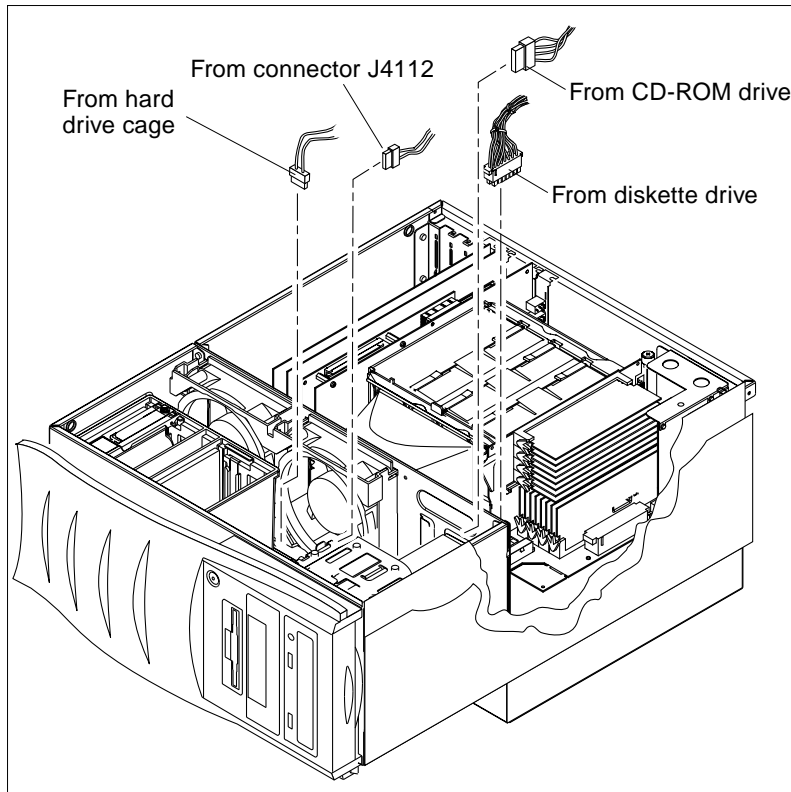

FIGURE 7-5 Removing and Replacing the Peripheral Power Cable Assembly
3. Disconnect the peripheral power cable assembly as follows (FIGURE 7-5):
1. Position the peripheral cable assembly into the chassis (FIGURE 7-5).
2. Connect the peripheral power cable assembly as follows (FIGURE 7-5):